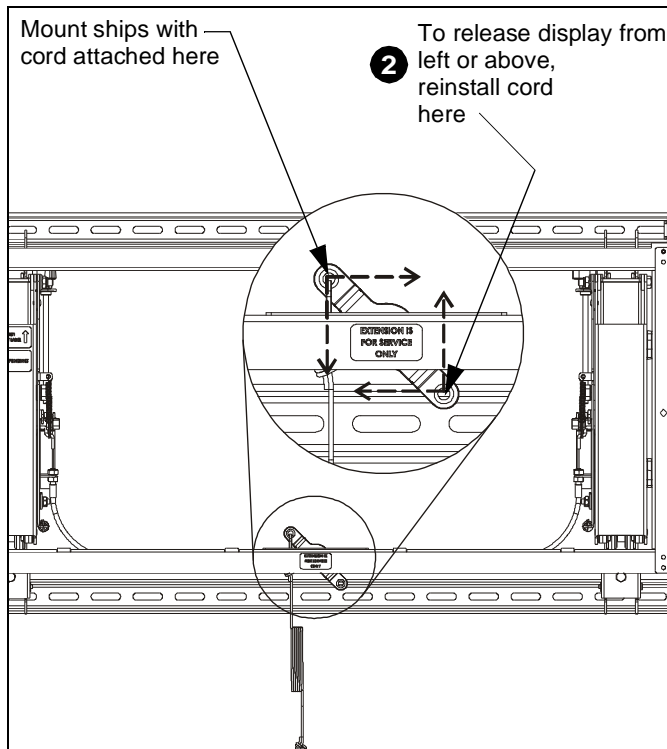

Figure 20
1. Unhook the pull cord from the mount. (See Figure 20)
2. Reinstall the pull cord in the opposite hole on the mount. (See Figure 20)